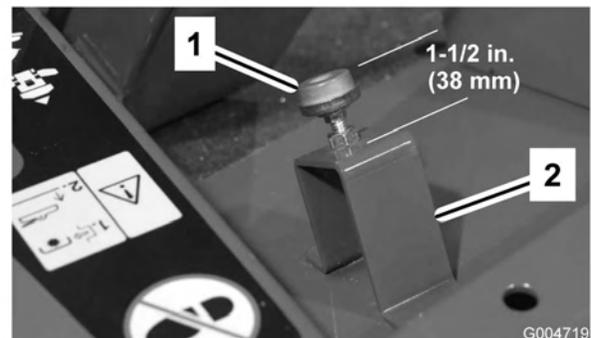

Figure 68
2. Check the traction pedal stop adjustment. The distance from the top of the stand to the top of the stop must be 1-1/2 inch (38 mm) (Figure 68). Loosen the nuts and adjust, as required.